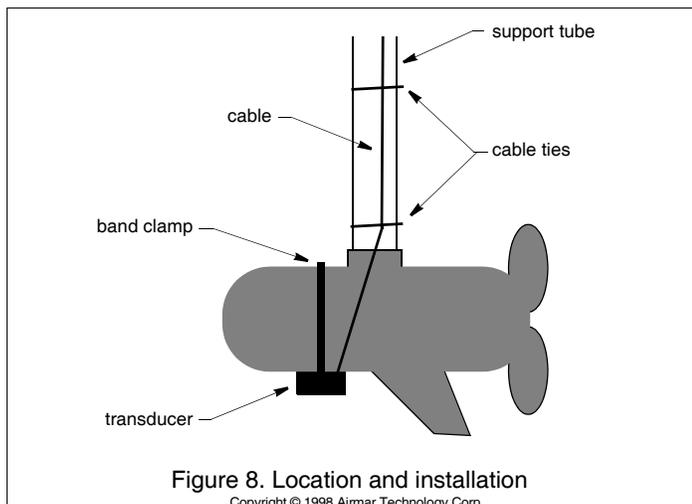

Figure 8. Location and installation
Locate the transducer under the motor case (Figure 8).
1. Route the cable around the side of the motor case and along the support tube (Figure 8).